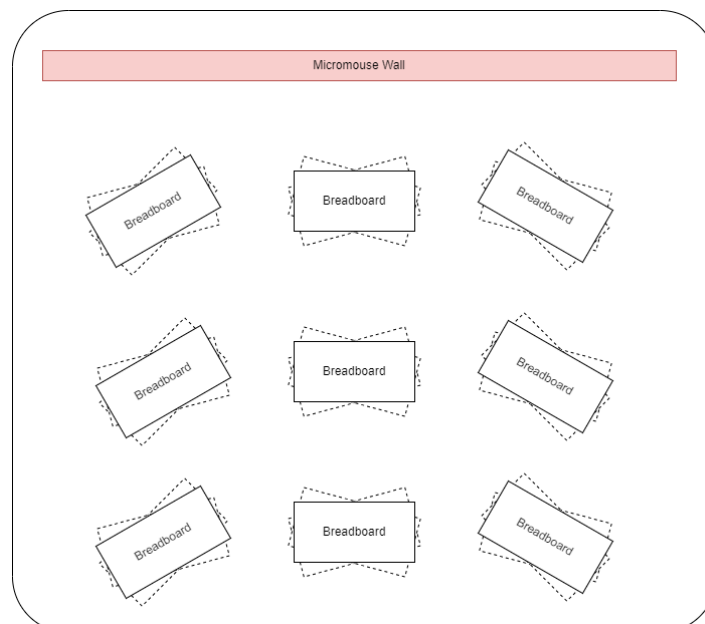

Figure 1: Testing Rig and procedure for testing the Analog Sensor
You are required to design and build a sensing system which can detect whether a wall is present in the sense direction. The system must be able to repeatably detect the presence of an external reflector from different physical locations on a testing rig, as shown in Figure 1. The system should take Infrared (IR) light as input and produce a signal-based output (an oscilloscope will be used to read the output). Additionally, the power source will be a 1S1P 18650 battery. All components used must be sourced from White Lab.
A testing rig with multiple predefined sensor positions will be used. At each location, your sensor will be rotated between $+15$ and -15 degrees along multiple small intervals from the original starting position. During this movement, the analog output will be measured and recorded using an oscilloscope. This testing procedure is visually shown in Figure 1.